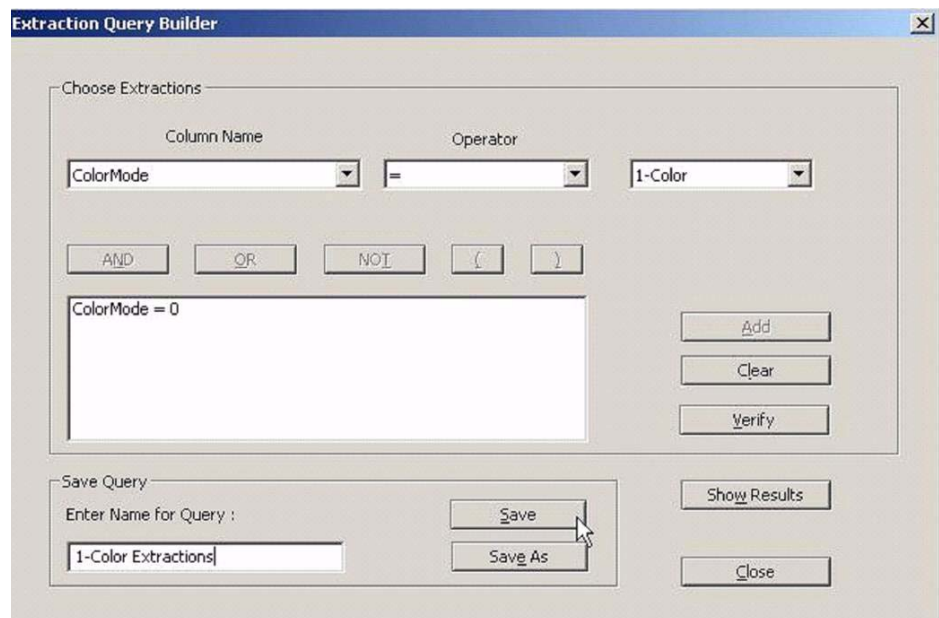

Figure 7 Extraction Query Builder with showing basic query
- 1 In the **Column Name** drop-down list, select the parameter to set. (In Figure 7, the selected Column Name is ColorMode.)
See Figure 7.